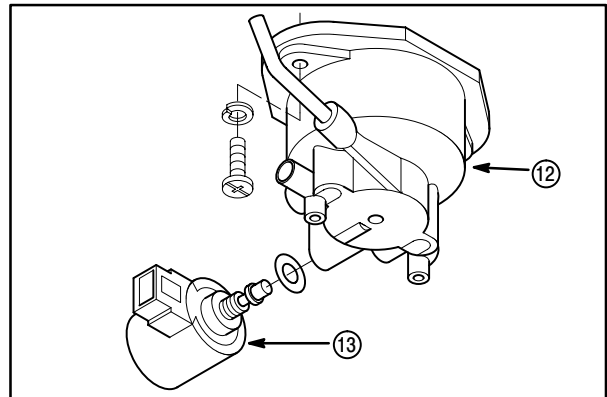

**Fig. 127**
6. Install emulsion tube body (8) with new gasket (19), **Fig. 127**. Tighten screw securely.